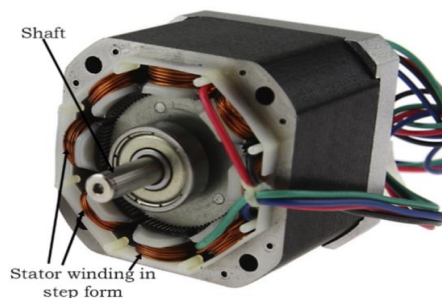

Fig. 3.48 Stepper motor
B. **Stepper motor** – This motor also known as a step motor or stepping motor, is a brushless DC electric motor that divides a full rotation into several equal steps. Stepper motors are used in robots and in those places where one wants angular rotation of the motor shaft. Figure 3.48 illustrates the typical stepper motor